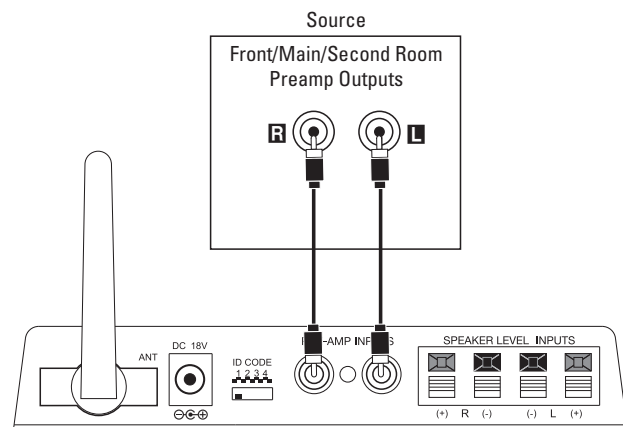

Figure 1.
Connect the interconnect cable (included) to the left and right front/main preamp outputs, zone 2 outputs or REC outputs, and the inputs on the transmitter module ⑧, as shown in Figure 1.